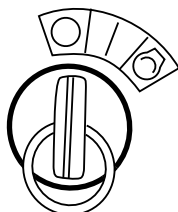

Figure 19. Starter Switch (STOP)
4. If using an electric start unit, return the key switch to the **STOP** position (Figure 19) as soon as the engine stops.